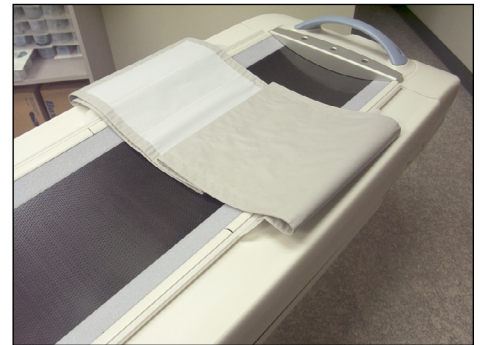

Fig. 34
1. Remove the GE CT Cradle Restrain Cloths (Fig. 34).